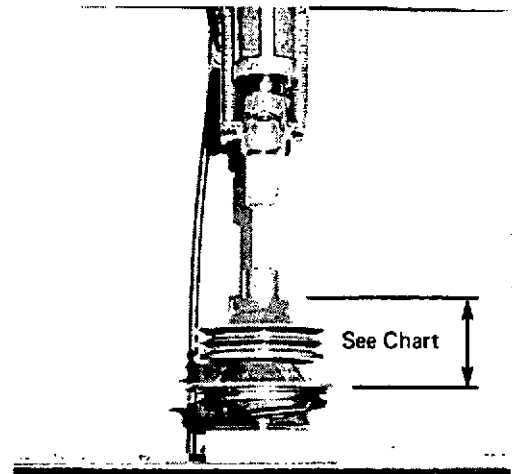

Figure 3. Assembly Measurements
H. Install pulley on impeller shaft (9) using an arbor press. Place assembly in arbor press so load is on impeller shaft (9) and not impeller (5).
**IMPORTANT:** There must be a measurement from the top of pulley and mating surface of housing (8). Refer to Figure 3.